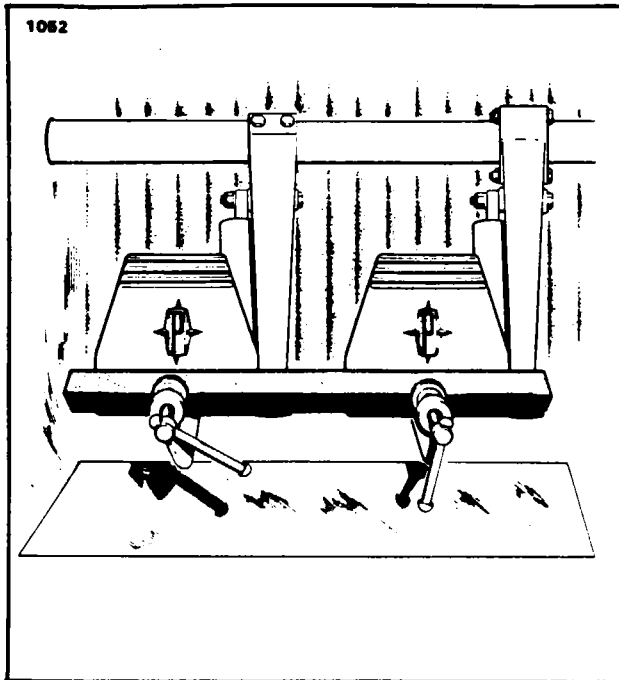

Figure 32-8. Clamping Rudder Pedals in Neutral Position
7. Clamp the rudder pedals in neutral position. (Refer to Figure 32-8.)